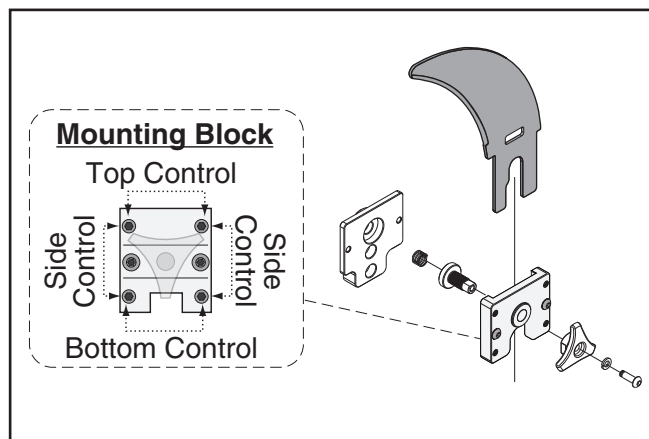

Figure 126. Set screws for adjusting spreader/riving knife position.
Figure 126 shows the set screws associated with controlling the mounting block position.
3. Loosen the two button head cap screws on the mounting block, then adjust the set screws on the block to move it in the necessary direction (see "Mounting Block" inset in **Figure 126**).